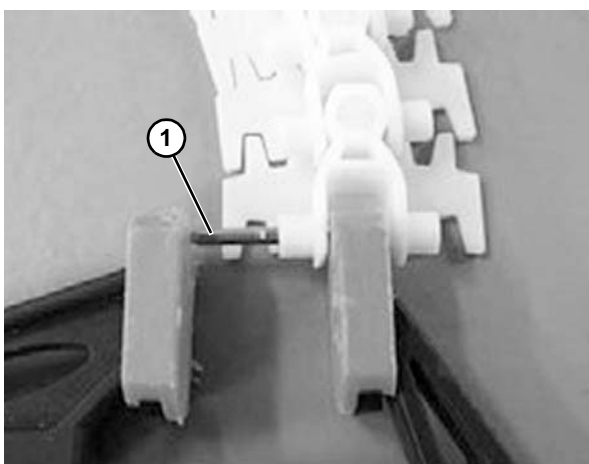

Figure 46
2. Insert the steel pin (**Figure 46, item 1**) halfway, using a pair of pliers. Always use new steel pins and plastic pivots when joining chain ends.